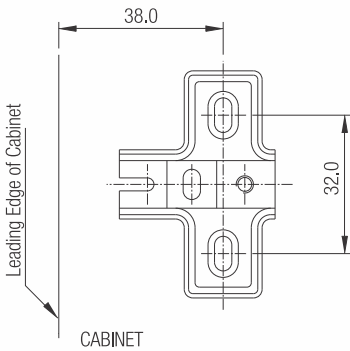

Fig.2
2. Mark hole in the cabinet for mounting plate as per Fig. 2 and screw on the mounting plate.